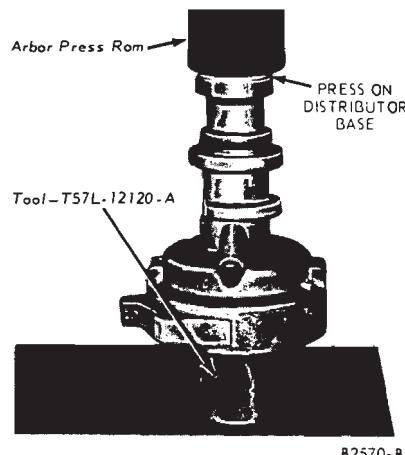

FIG. 17—Installing Bushing—6-Cylinder Engine
- Oil the new bushing and position it on the bushing replacer tool. Install the bushing (Fig. 17). When the tool bottoms against the distributor base, the bushing will be installed to the correct depth.
2. Burnish the bushing to the proper size (Fig. 17).